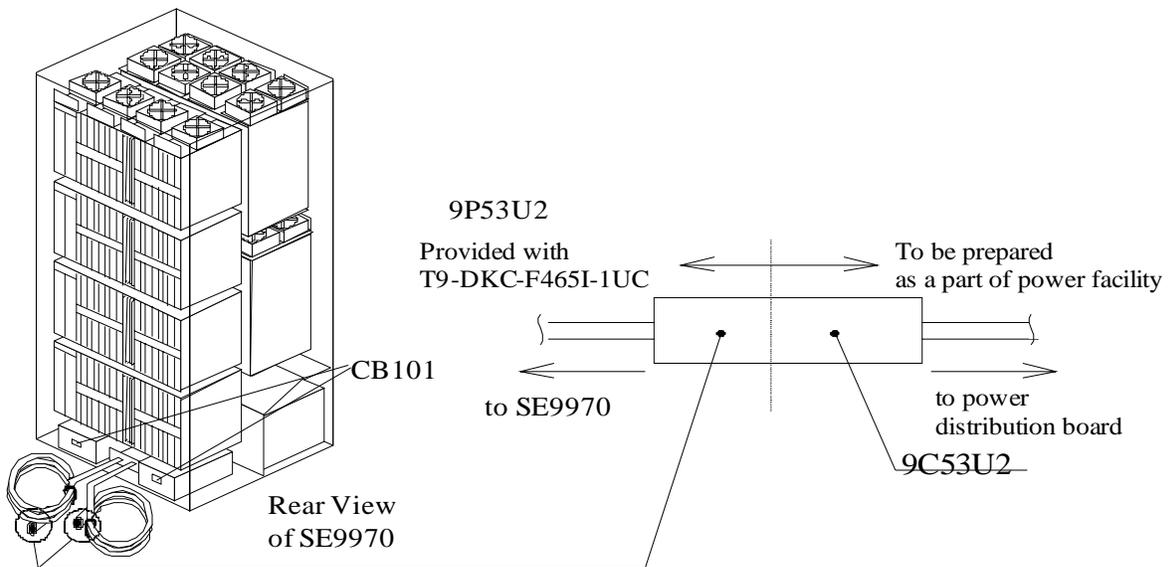

Figure 36 Power Plugs for a Single-Phase Sun StorEdge 9970 System (USA)
- Figure 36 illustrates the power plugs for a three-phase Sun StorEdge 9970 system (USA).